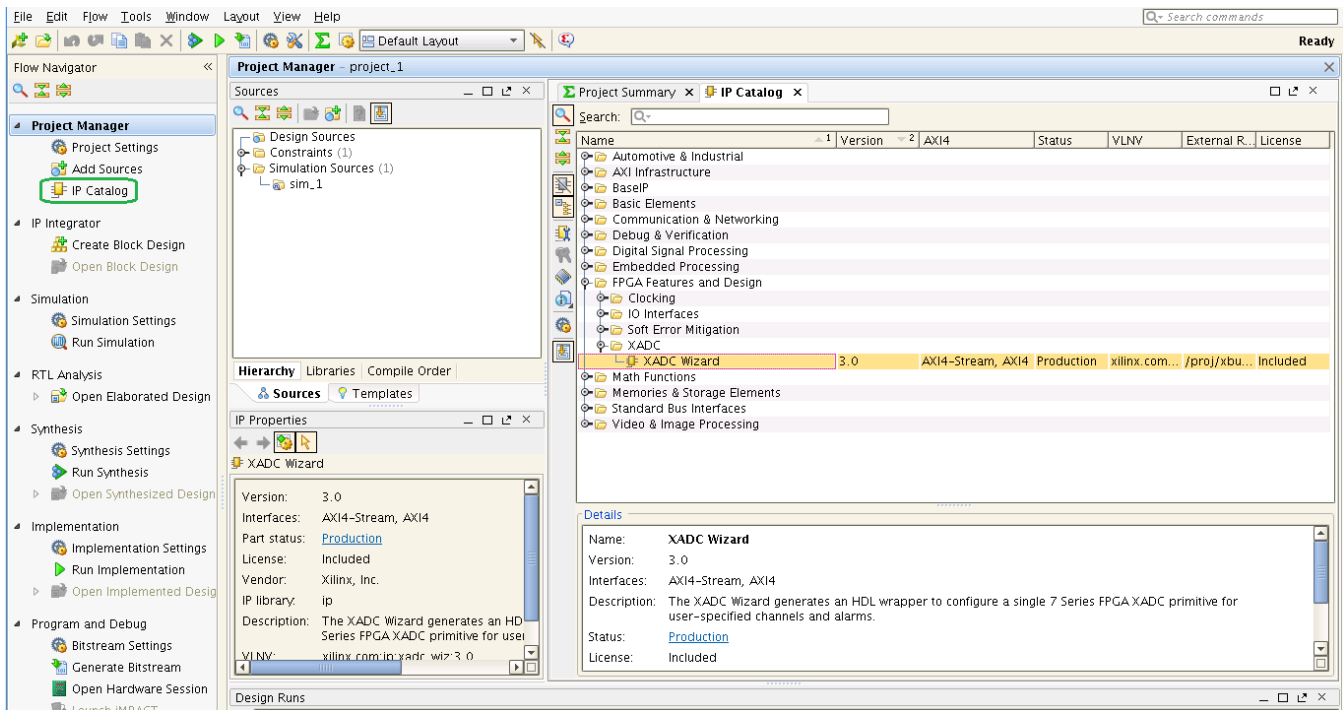

Figure 1-3: Vivado IP Catalog
2. After creating a new 7 series family project or opening an existing one, the IP catalog appears at the right side of the window, as shown in Figure 1-3.